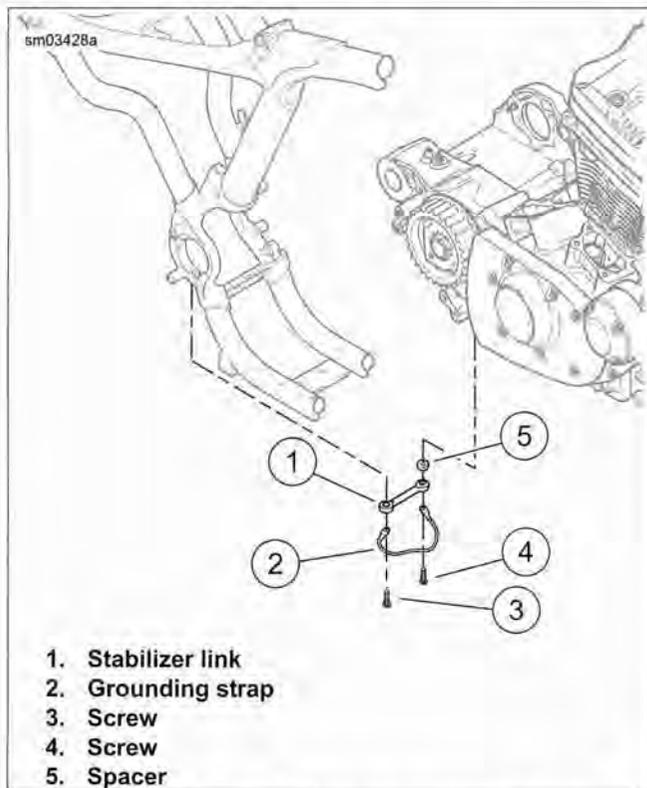

Figure 3-14. Rear Stabilizer Link Assembly (typical)
26. See Figure 3-14. Remove screws (3, 4), grounding strap (2), stabilizer link (1) and spacer (5).